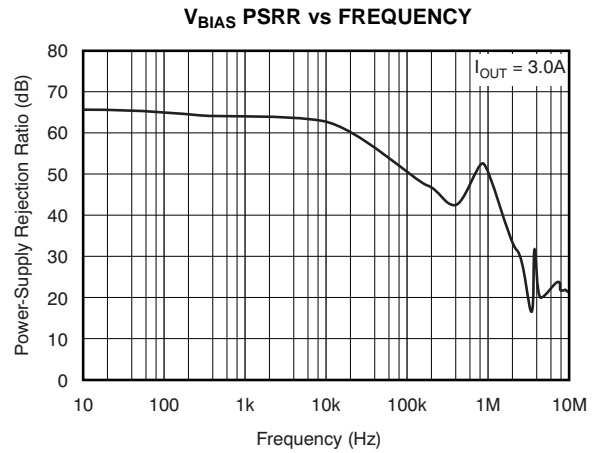
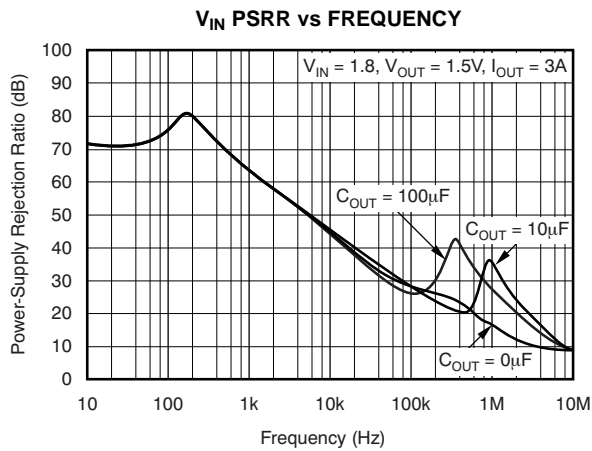

Figure 10.
Figure 13.
- (1) Adjustable devices tested at 0.8 V; external resistor tolerance is not taken into account.
(2) Dropout is defined as the voltage from the input to V_{OUT} when V_{OUT} is 2% below nominal.
(3) I_{FB} current flow is out of the device.
(4) See Figure 10 to Figure 13 for PSRR at different conditions.